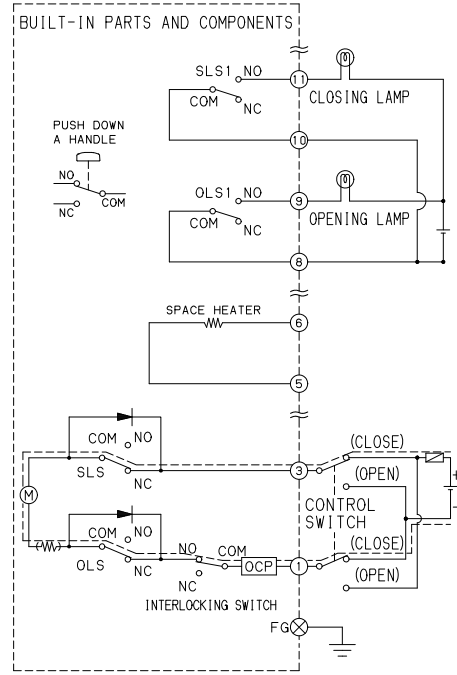

Fig. 11
of the actuator housing cover (Fig. 11)
(3) From the condition as shown in Fig.11 switch the